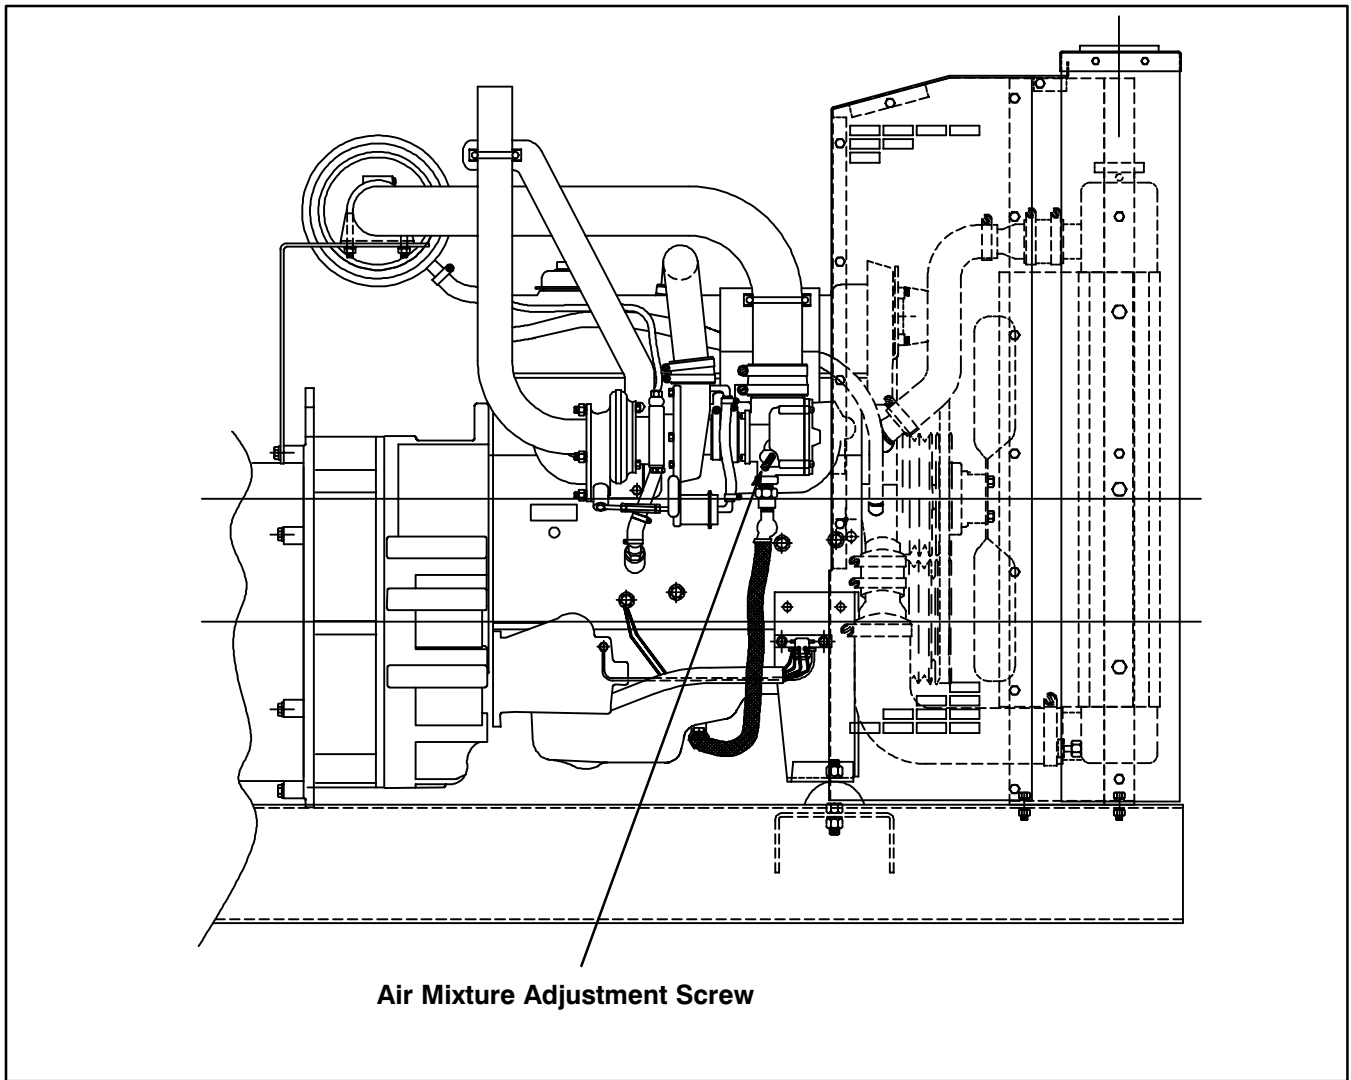

Figure 2. Air Mixture Adjustment
4. Disconnect fuel inlet and turbo from natural gas mixer. Remove mixer mounting hardware and remove mixer. Install LP gas mixer (A-258495) and secure with original hardware. Reconnect fuel inlet and turbo. Adjust the fuel/air mixture by turning the air screw in until it bottoms lightly then open four full turns. See Figure 2.